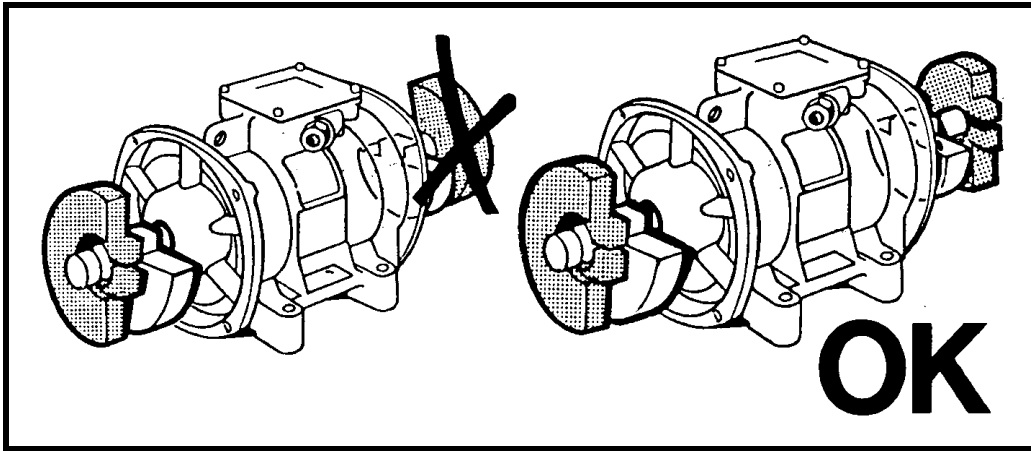

Figure 11. Setting Sets of Eccentric Weights to Mirror Images
7. Repeat steps 2 through 5 for second set of weights. Set both sets of weights to same setting number so they are mirror images, as shown in Figure 11.